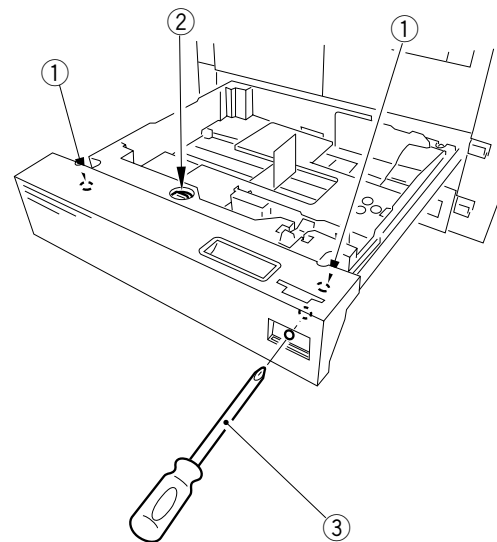

Figure 5-847
Loosen the screw ② shown in Figure 5-847 using a screwdriver ③, and adjust the position of the cassette hook plate ① so that the registration is as specified.